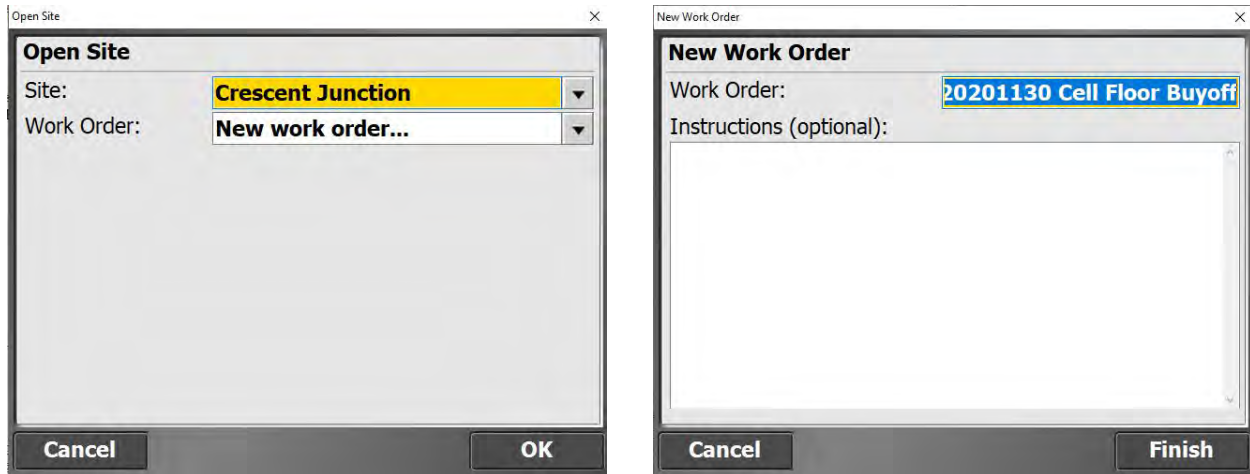

Figure 1. Create New Work Order
Step 1. On the Data Collector open the Site "CRESCENT JUNCTION" and create a new work order (Figure 1).